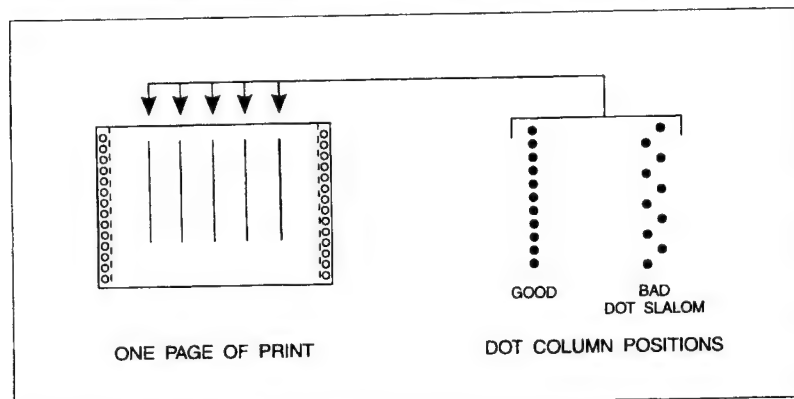

Figure 5-13. Dot Column Position
- d. If there is some "waviness" in the lines, perform the Hammer Flight Time adjustment. The dots making up the vertical lines should be directly over each other (see Figure 5-13), if they are straight, exit this procedure. If the dots are not straight, proceed to step "e".
- d. Press SELF-TEST and use the FINE ADJ key to select test 16. You may also use test 2 and/or 5. See figures 5-13 and 5-14.